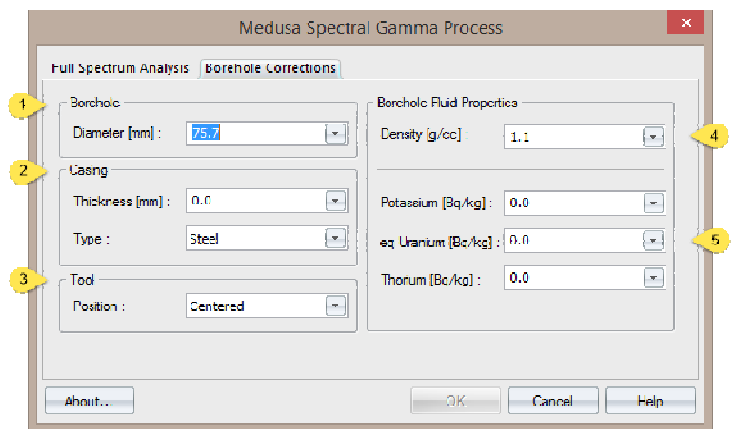

Figure 6 - FSA borehole correction parameters
Before commencing the FSA process the user should open the **Borehole Corrections** tab (figure 6) in the Medusa Spectral Gamma Process dialog box. Setting the correct parameters for borehole diameter (1), casing type and thickness (2), position of the logging tool in the borehole (3) and borehole fluid properties (density (4) and concentration of radioactive additives (5)) is advisable. Corrections will be applied to the derived radionuclide concentrations and output as an additional data channel (with a suffix “- Corr” in the log title).